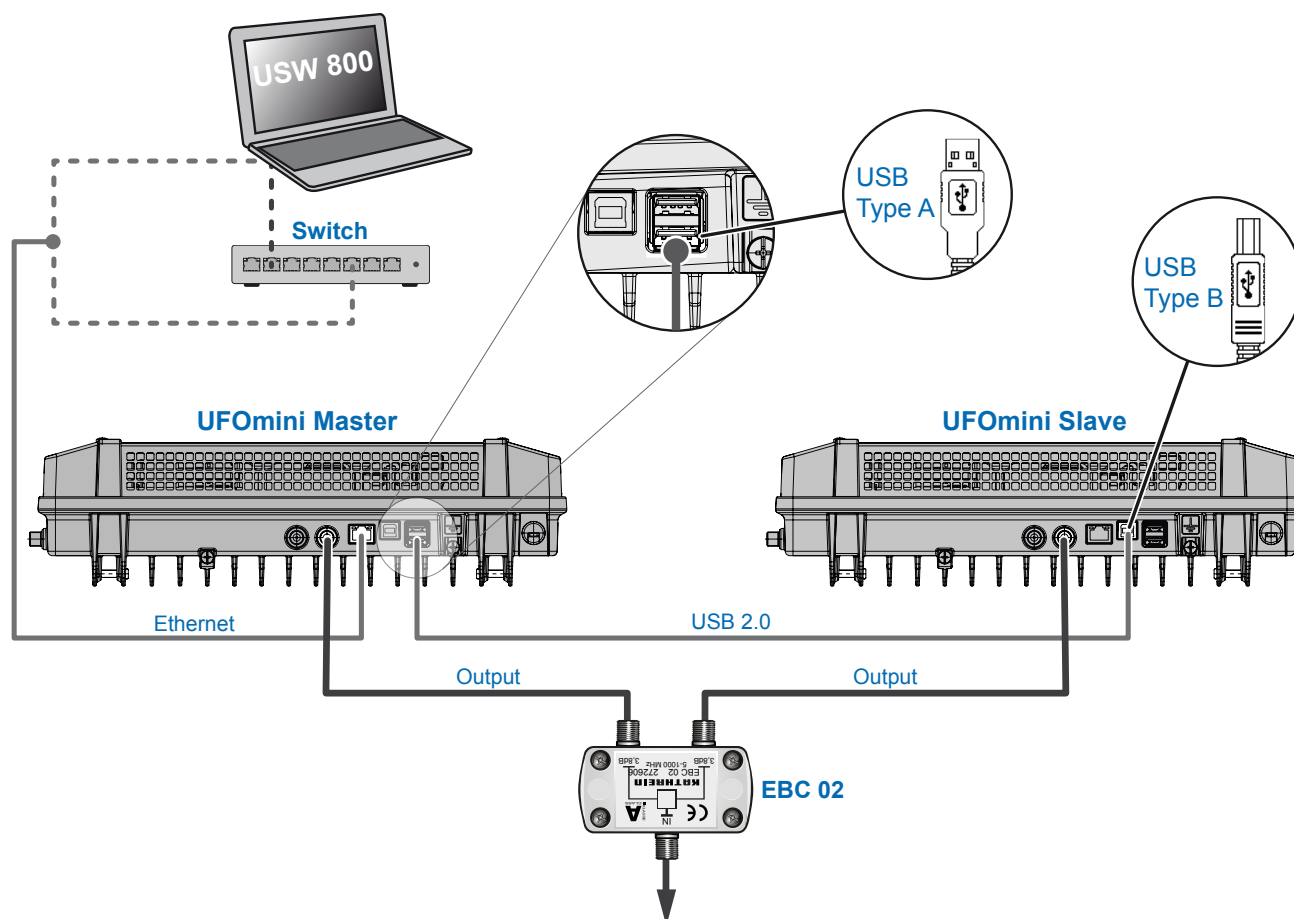

Fig. 4: Cabling
2. Connect an Ethernet cable¹⁾ to the RJ45 socket on the computer, if required, by means of a switch or router; see Fig. 4, P. 5. The head-end will now function as the *master*.
3. If a second head-end is present: Connect the second head-end to the first head-end using a USB 2.0 cable (Fig. 4). In this case: